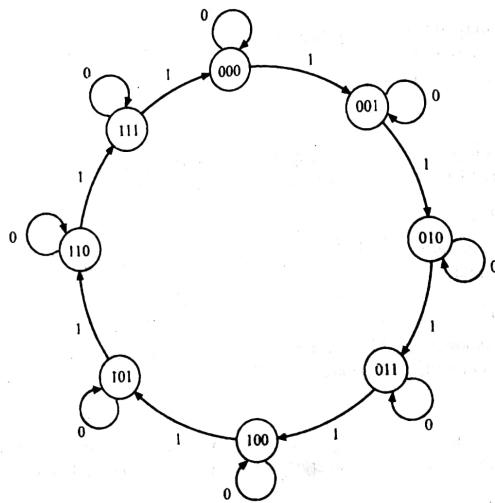

Fig. 8.18 State diagram of 8 bit counter of Example 8.9
*Solution:* A three bit binary counter will have  $2^3$  or 8 states. Let X be the input which is to be counted whenever its value is 1 at the instances of the clock. The state diagram of the system is shown in Fig. 8.18.